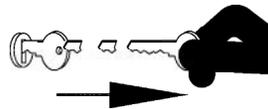

Fig. 3-19
4. Fold auger back to field rest position (Figure 3-19), making sure upper auger rest engages the field rest tube and activates the auger switch.
NOTE: Upper auger rest is factory adjusted. Bolts can be used for re-alignment of upper auger rest. See “Upper Auger Rest Adjustments” in this section. (Fig. 3-19)